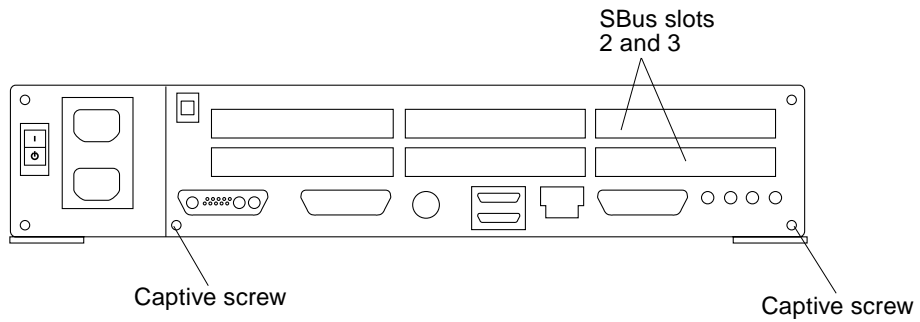

FIGURE 8-37 Back Panel SBus Slots and Captive Screws
5. **Replace any SBus cards (see FIGURE 8-37).**
- 6. Loosen the two captive screws that secure the system board back panel to the chassis (FIGURE 8-37).**
5. Slide the system board completely into the chassis. Tighten the two captive screws that secure the system board back panel to the chassis (FIGURE 8-37).